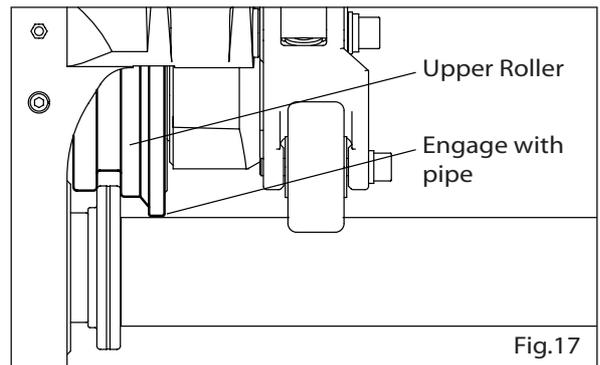

Fig.17
- 1) Loosen the hydraulic pump valve, and pull the pump handle up firmly to engage the upper roller lightly with the pipe. (Fig. 17)